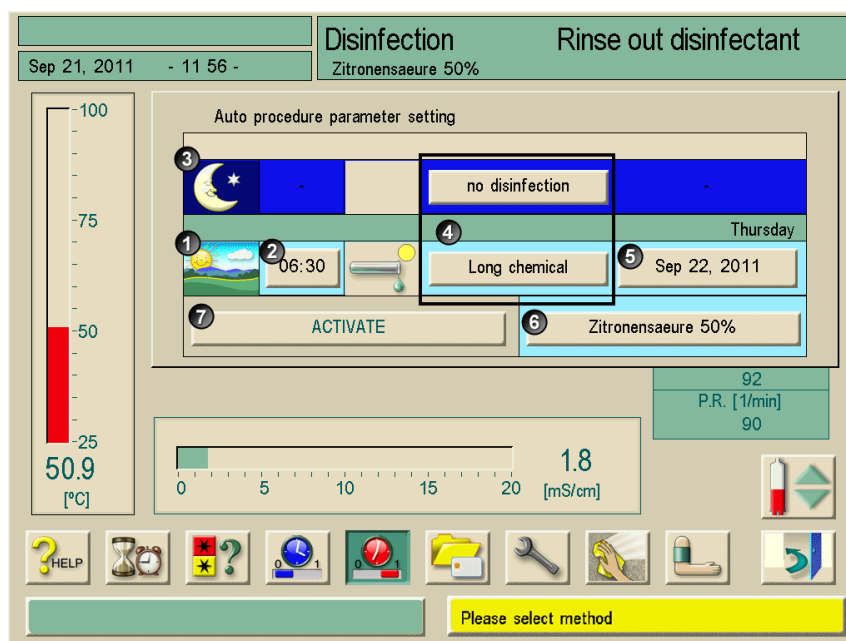

Fig. 8-7 "Disinfection" screen
- Touch button for disinfection method. (Fig. 8-7, 4)
- Set switch ON time.(Fig. 8-7, 2)
- Touch button "Activate" (Fig. 8-7, 7)